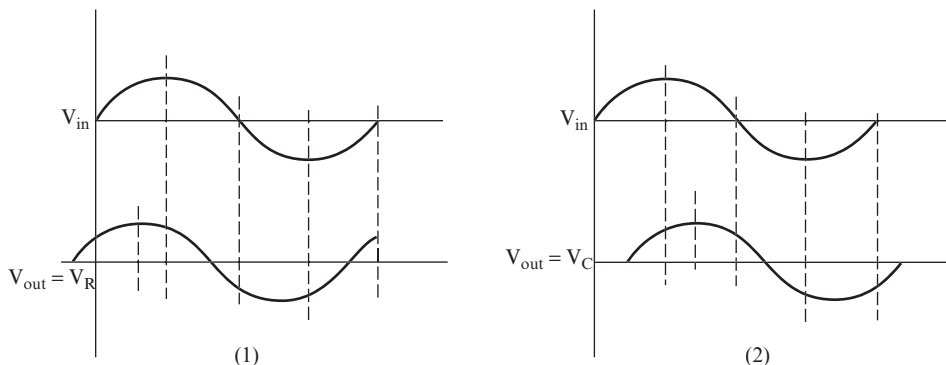

FIGURE 6.27
21 The voltage is also changed in another way. The voltage across a capacitor rises and falls at the same frequency as the input signal, but it does not reach its peak at the same time, nor does it pass through zero at the same time. You can see this when you compare the V_{out} curves to the V_{in} curves in Figure 6.27.
NOTE The numbered graphs in Figure 6.27 are produced by the corresponding numbered circuits in Figure 6.26.
22 The output voltage waveform in graph (1) of Figure 6.27 is said to *lead the input voltage waveform*. The output waveform in graph (2) is said to *lag the input waveform*. The amount that V_{out} leads or lags V_{in} is measured in degrees. There are 90 degrees between the peak of a sine wave and a point at which the sine wave crosses zero volts. You can use this information to estimate the number of degrees V_{out} is leading or lagging V_{in} . The difference between these two waveforms is called a *phase shift* or *phase difference*.